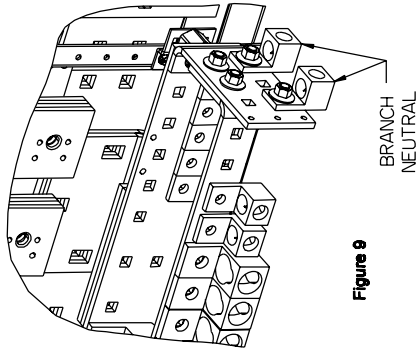

Figure 9
9. Reference fig. 9 - Installing the Branch Neutral Lug (item 2) in a Switchboard. The Branch Neutral is located at the bottom of the "Z-rails", or mirrored at the top depending upon the feed cable location. Two (2) different Neutral lug assemblies are included in the kit, be sure to install the type pictured below. The Neutral lug assemblies can be mounted, as shown, on either side of the Branch Neutral depending on cable feed location. Torque all hardware as specified on the rear of the deadfront.